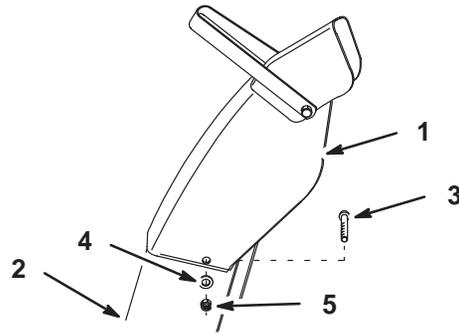

Figure 5
- Assemble the upper discharge chute section outside and on top of the lower section with 3 bolts (5/16 x 5/8 in.) (heads on the inside), 3 washers (5/16 in.), and 3 locknuts (5/16 in.) (Fig. 5).